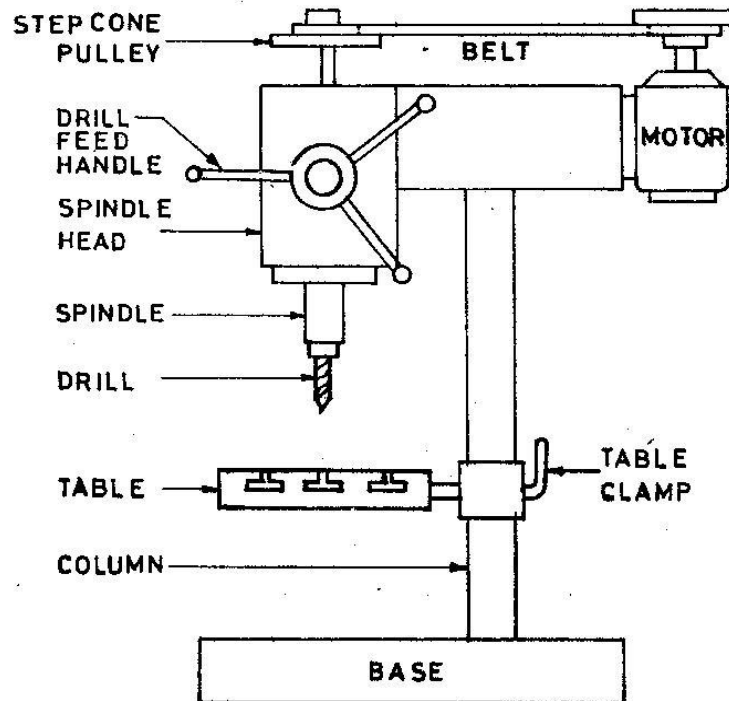

Fig.1. Sensitive or bench Drilling Machine
2. Sensitive or Bench Drilling Machine (Fig. 1)
- This type of drill machine is used for very light works. Fig.1 illustrates the sketch of sensitive drilling machine.